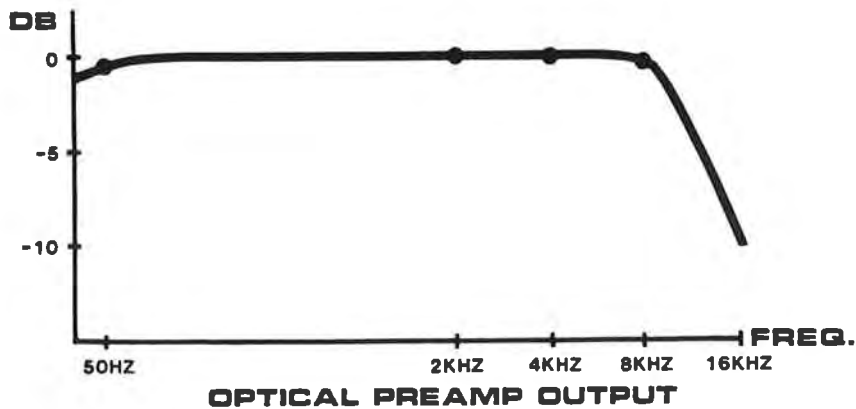
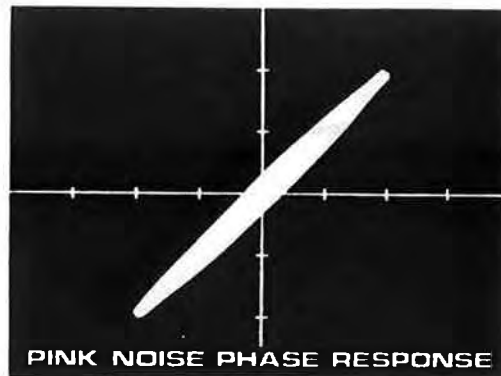

figure 6
figure 7
(F) Connect a REAL TIME ANALYZER to the test jack on the FORMAT card and move the rotary switch to "L" (the left channel output of the OPTICAL PREAMP). Run the PINK NOISE side of the DOLBY* TONE film #69. With the "HI" control on the OPTICAL PREAMP fully counterclockwise, adjust the soundhead optics for the best high frequency focus and azimuth on the REAL TIME ANALYZER (figure 6) and the thinnest display on the oscilloscope (figure 7). Adjust the "HI" control on the OPTICAL PREAMP for flat response to 9 KHZ. Move the rotary switch on the FORMAT card to "R" and check the high frequency response of the right channel on the REAL TIME ANALYZER.